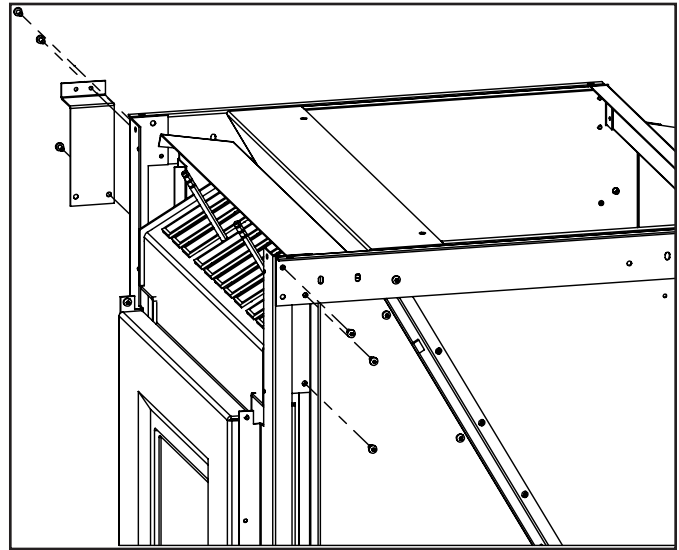

Figure 8: Front HDK assembly install.
8. Install the Air deflectors, remove three screws from each side shown in figure 8, pull the vertical frame part forward slightly so the deflector can be fit behind. Re-install the screws two of them will secure the deflector.